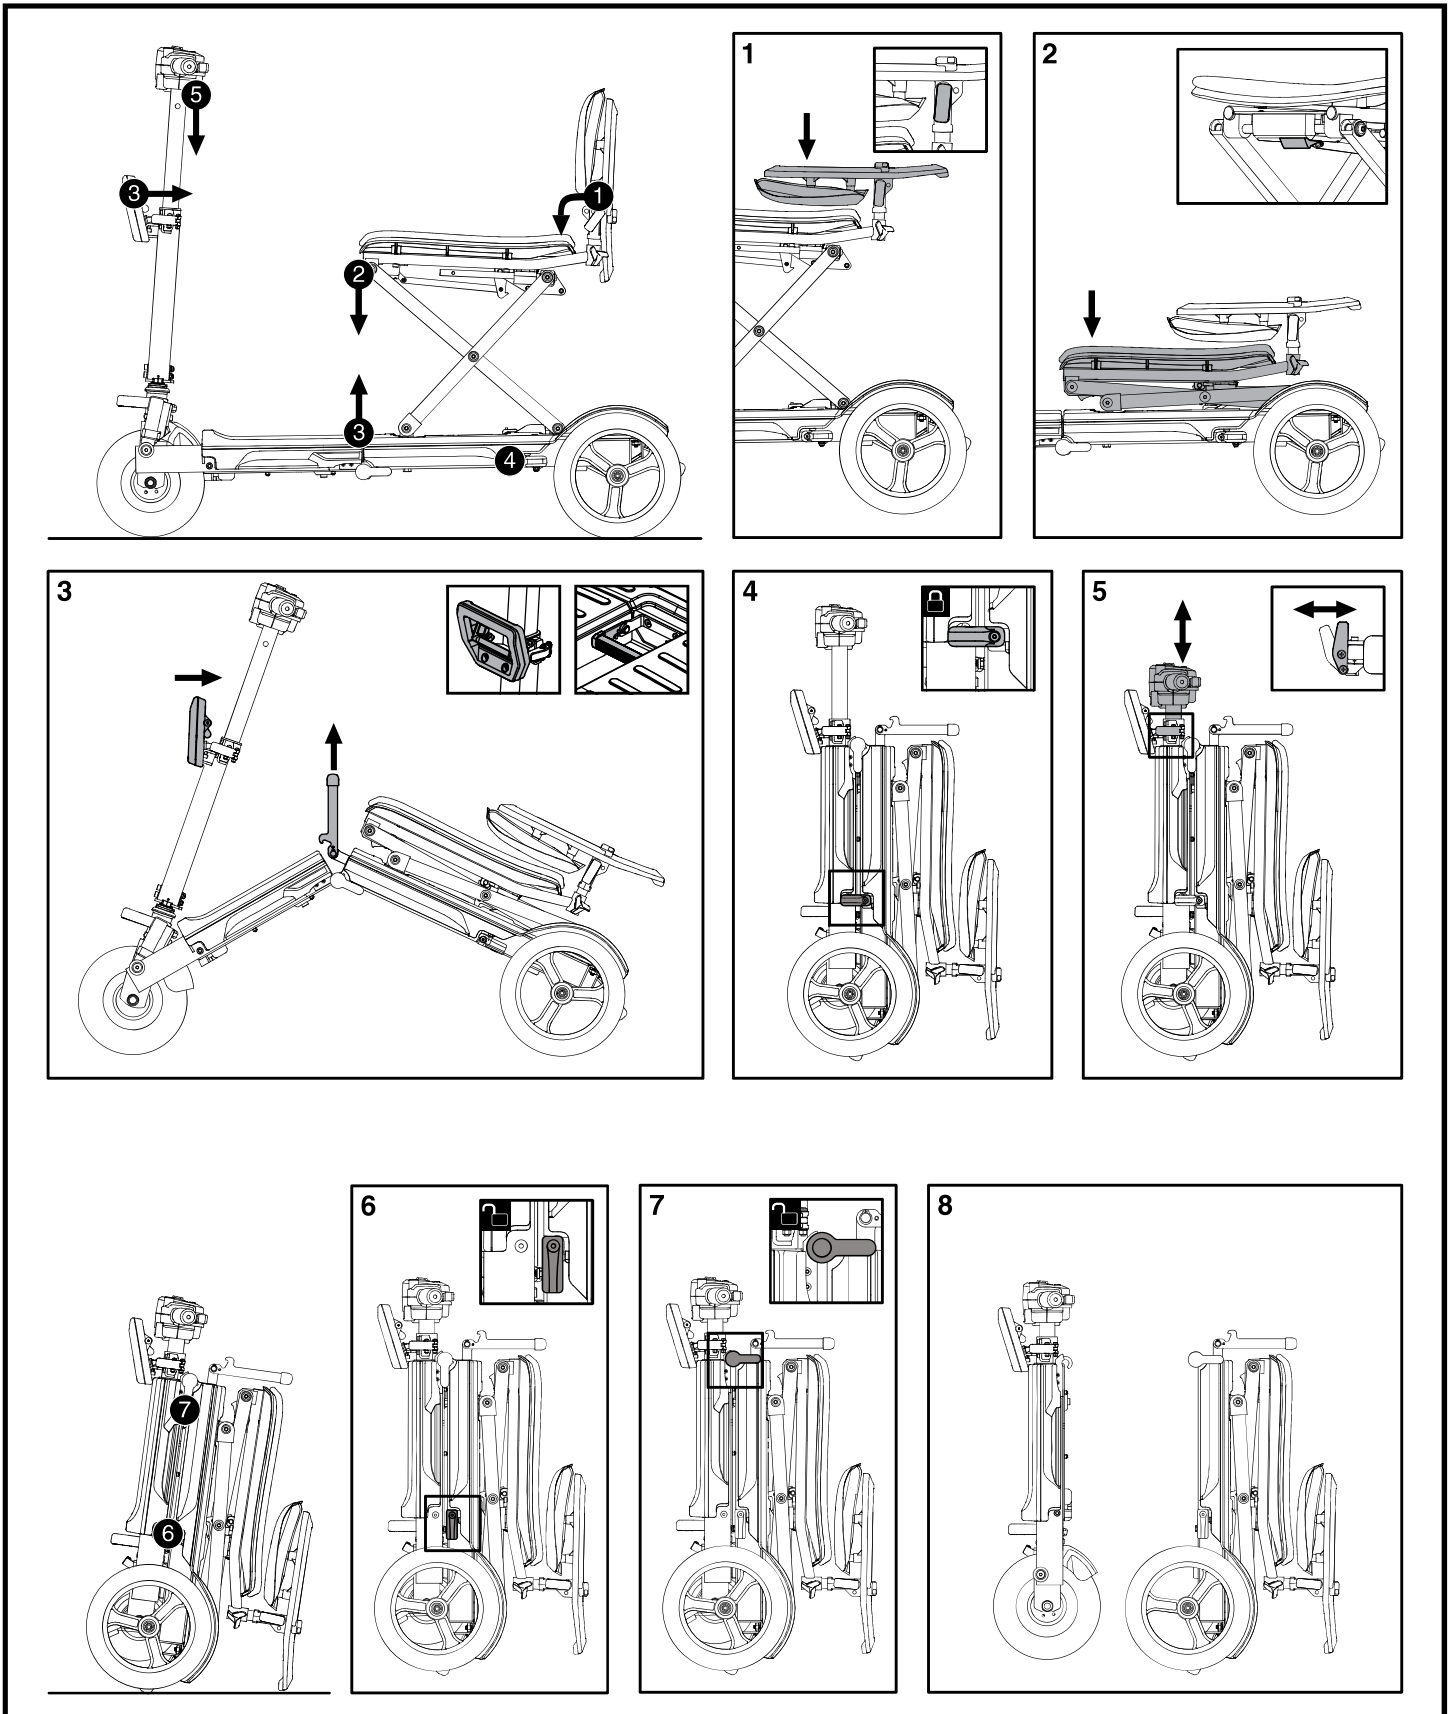

Figure 14. Folding for Transport
To fold your scooter (see figure 14):
To unfold your scooter (see figure 14):
1. Fold your scooter as shown in step 6 in **figure 14**. Refer to V. “Disassembly/Assembly and Folding/Unfolding” for more information.
4. Unfold your scooter as shown in **figure 14**. Refer to V. “Disassembly/Assembly and Folding/Unfolding” for more information.